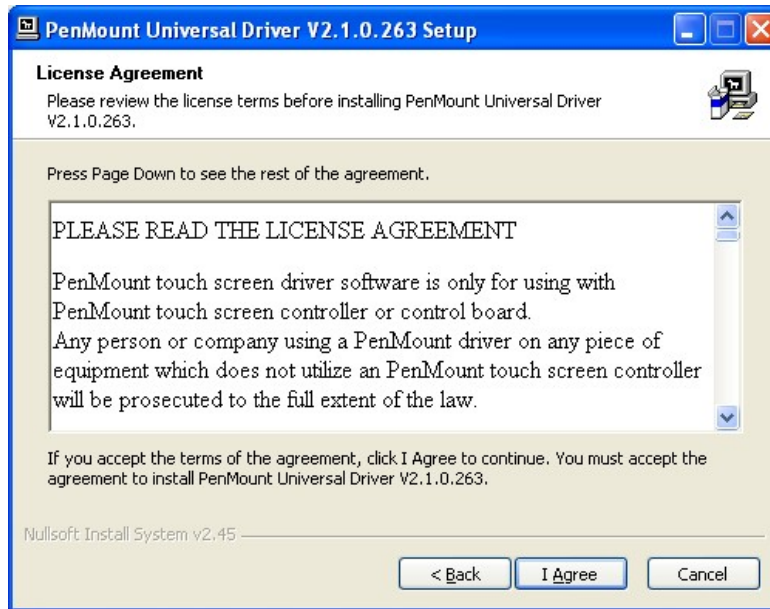

Figure 6-19: Touchscreen Driver License Agreement
Step 6: The **License Agreement** shown in **Figure 6-19** appears.